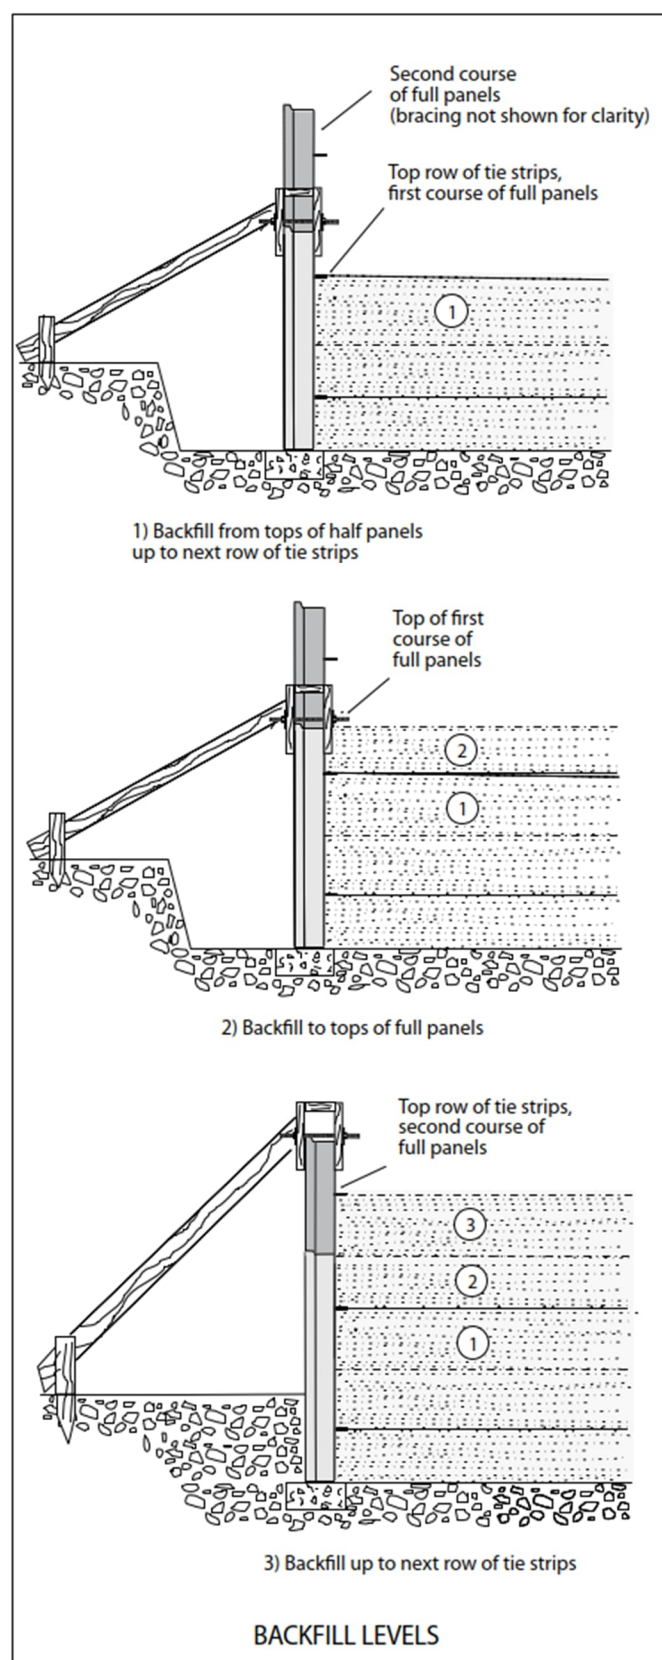

Figure 31: Backfill levels.
**STEP F-5:** When the course of panels is complete and after vertical and horizontal geotextile has been installed, place backfill in lifts according to the Plans, Specification, and Contract Documents up to 2" above the tie strip level. Figure 31 illustrates the sequence for backfilling the second and subsequent courses.